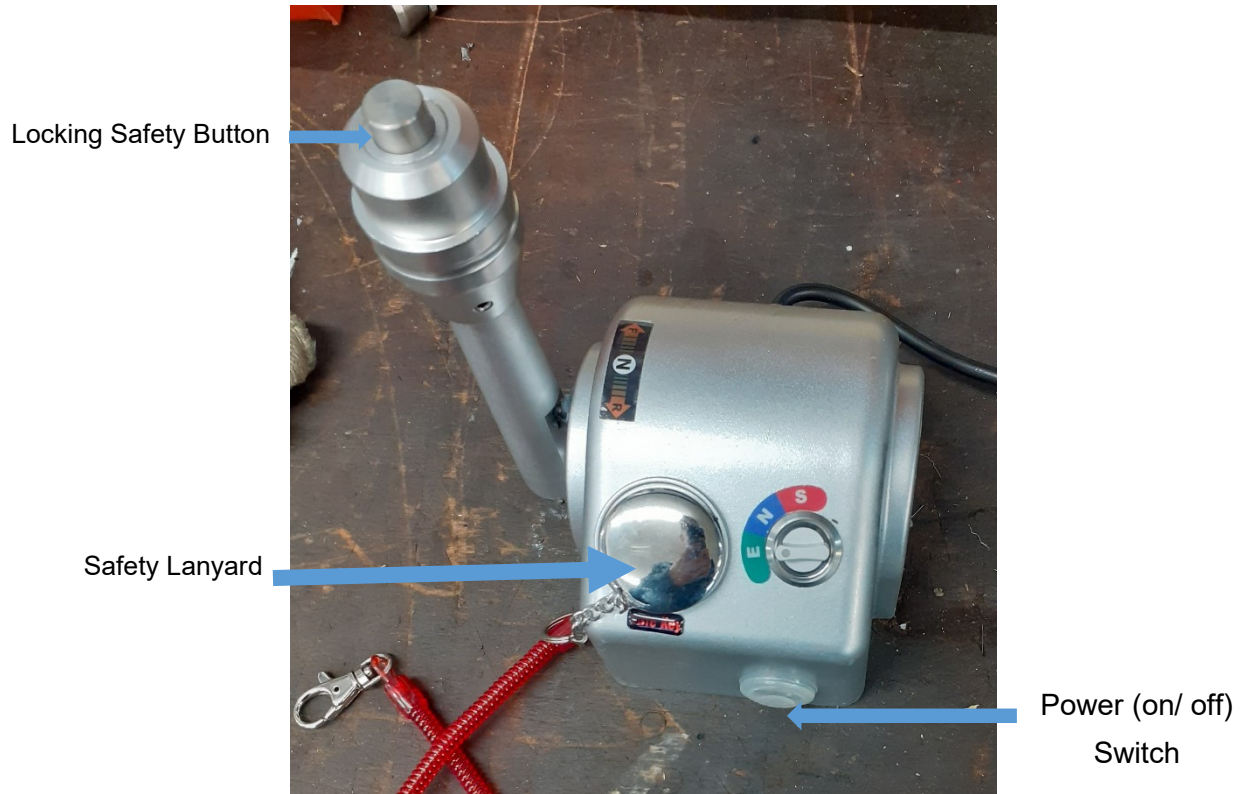

Figure 30: Safety Lanyard attached to control lever
- Attach the safety lanyard to the control lever connected to the outboard (**Figure 30**).